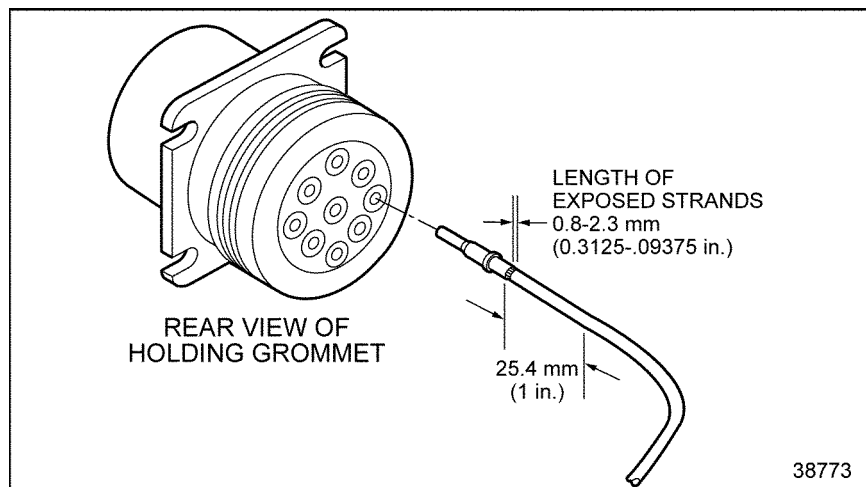
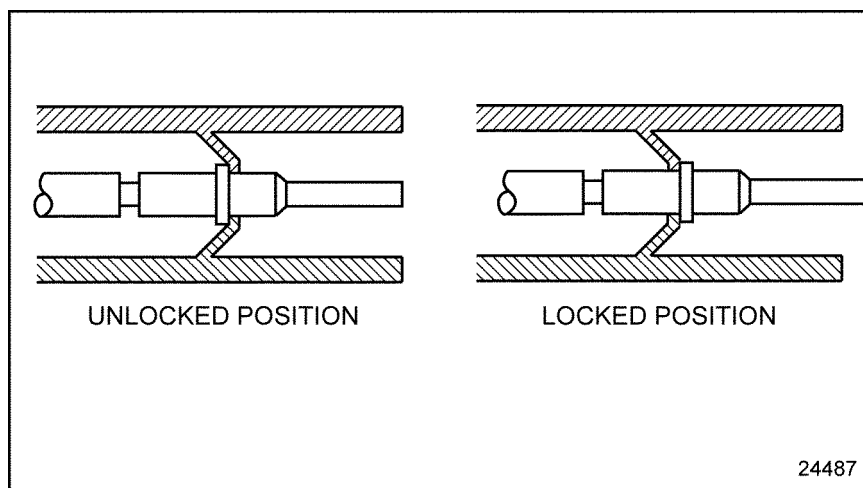

Figure 2-10 Pushing Contact Into Grommet
Figure 2-11 Locking Terminal Into Connector
5. Grasp the contact approximately one inch behind the contact crimp barrel. Hold the connector with the rear grommet facing you. See Figure 2-10.
6. Push the contact into the grommet until a positive stop is felt. See Figure 2-10. A slight tug will confirm that it is properly locked into place. See Figure 2-11.